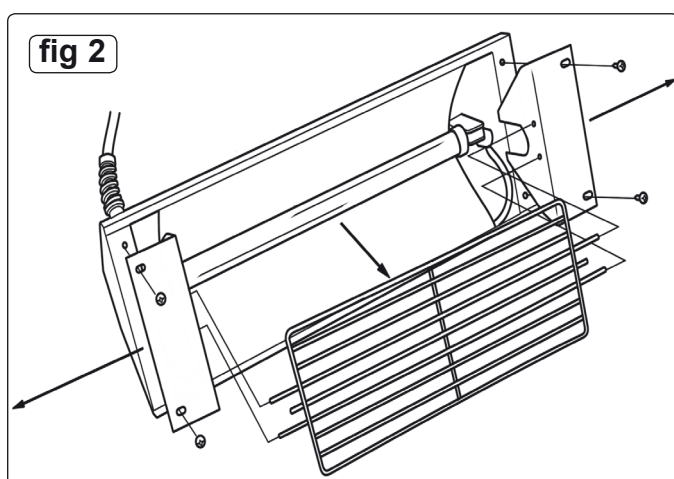

fig 2
3.2.1 Remove the four screws located at each end of the face of the lamp which hold the end reflectors and grill in place. (See fig.2)